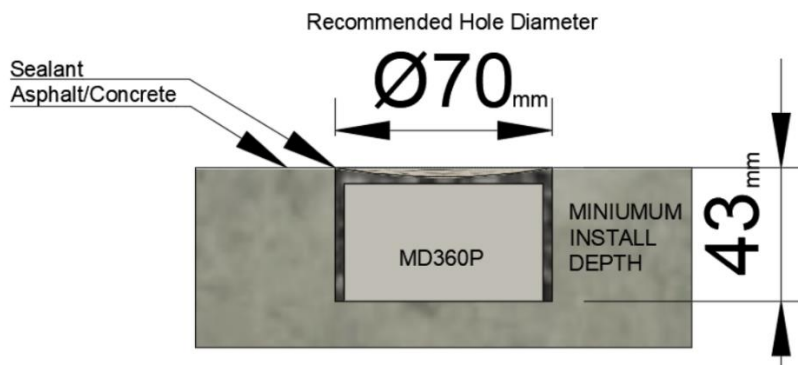

Figure 1: Installation of the Puck
1. Buried in the road beneath the vehicle (MD360P - Figure 1).
It is important that the MD360 wireless Detector does not move during normal operation. Any movement will result in the detector giving a false detection output. When burying the PUCK, ensure that the fill material is concave so that it does not come into contact with the tyre of the vehicle (See figure 1).